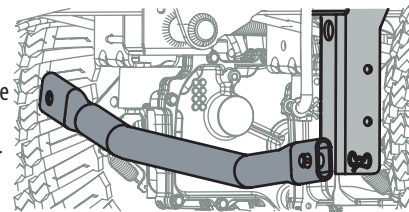

Figure 52
- b. Remove the bow-tie cotter pin on the left side of the bar, connecting the bar with the bracket on the frame. See Figure 52.